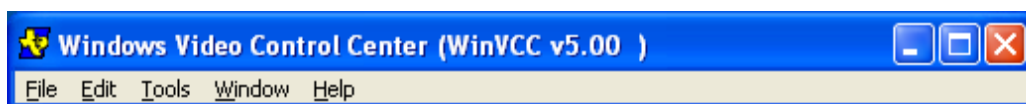

Figure 2. WinVCC4 Main Screen
4. If there are no I2C communication issues, the Windows Video Control Center box will display. See Figure 2. If there are I2C issues, an I2C Test Report box will display. Completely exit out of WinVCC4, double check the parallel port cable connections, verify I2C Address jumpers on the two boards are set properly, cycle power on the TVP7000EVM and re-run WinVCC4.